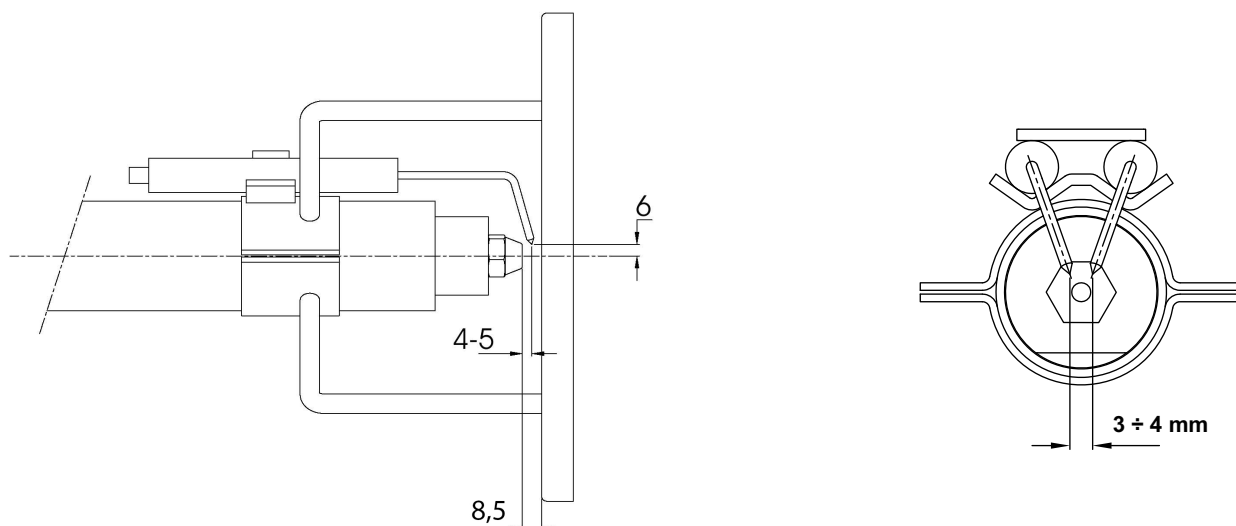

Fig. 15
To guarantee a good ignition the measures shown on the next picture Fig. 15 must be observed.
- 5 remove the electrodes and replace them, referring to the values quoted on Fig. 15.